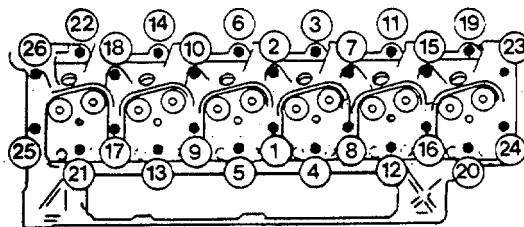

FIGURE 2-40. Torque Sequence.
2-40. Replace/Repair Cylinder Head Group. (FIGURES 2-40 and 2-41)
- b. Carefully put the cylinder head (3) on the block and seat it onto the gasket.
- e. Tighten capscrews in sequence as illustrated in FIGURE 2-40. Torque in three steps as follows.